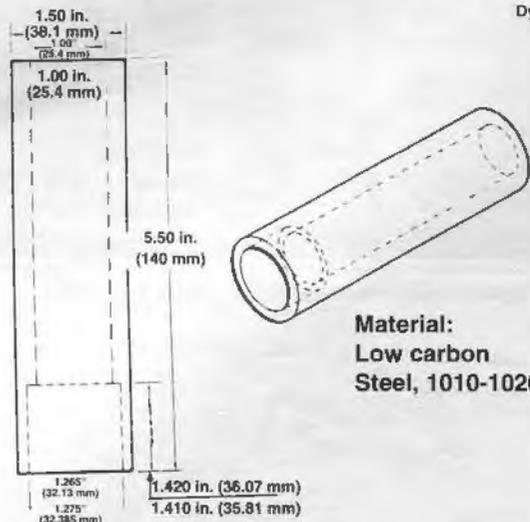

Figure 3-84. Inner Race Installation Tool
2. See Figure 3-83. Press new race (1) on pinion shaft to the dimension shown. Make sure retaining ring groove end of inner race is away from flywheel. Figure 3-84 shows a fabricated installation tool that will locate the inner race properly when tool is "bottomed" on flywheel.